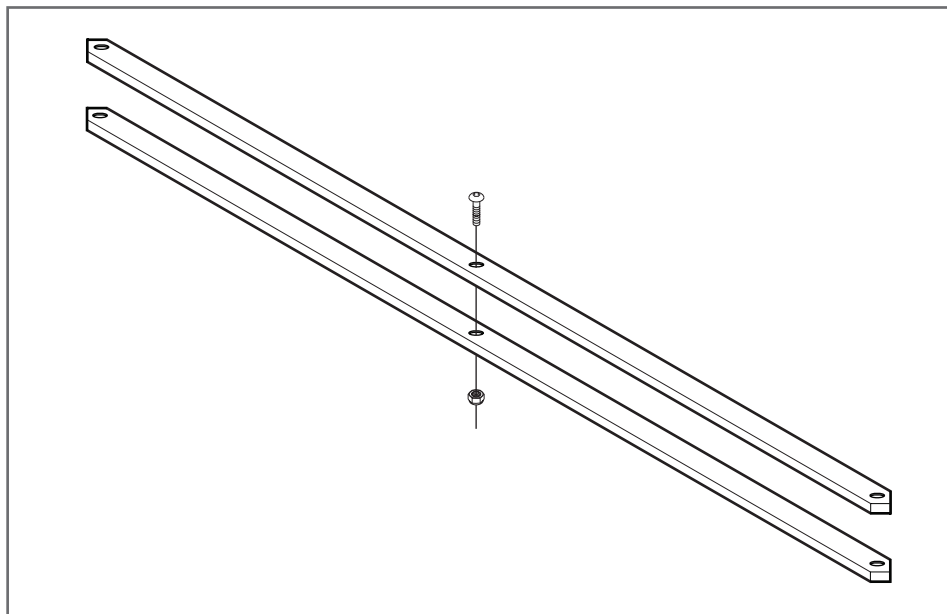

Figure 6
9. Place the x-brace pieces (F) on a flat, stable surface aligning the center hole of each. Join with one button head cap screw (G) and one nylock nut (H). When tightening, ensure the x-brace can still be adjusted to fit the shelf unit. (Figure 6).